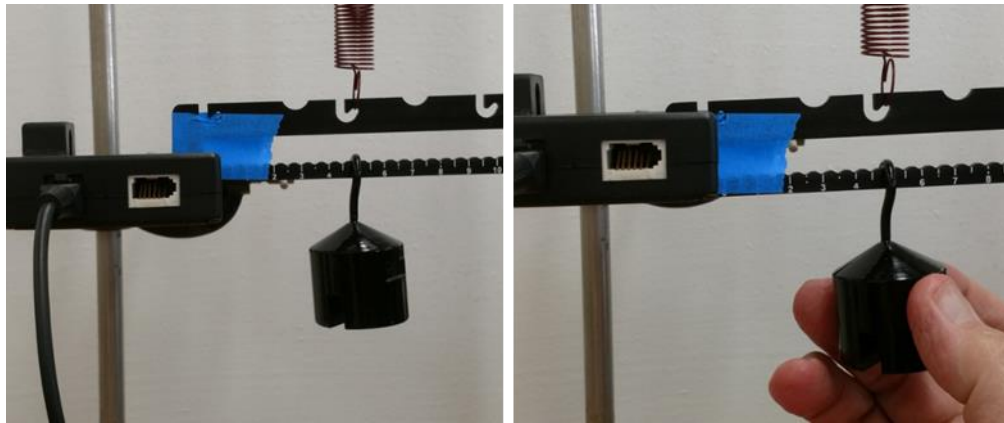

Figure 7 – Pulling down the mass for measurement.
- d. Verify you’re in the correct location by pulling gently down on the mass, about 1 cm, then releasing it as shown in Figure 7. The parallel bar shouldn’t go below the
- a. Just as before, shown in Figure 7, pull the mass vertically down about 1cm and release it.